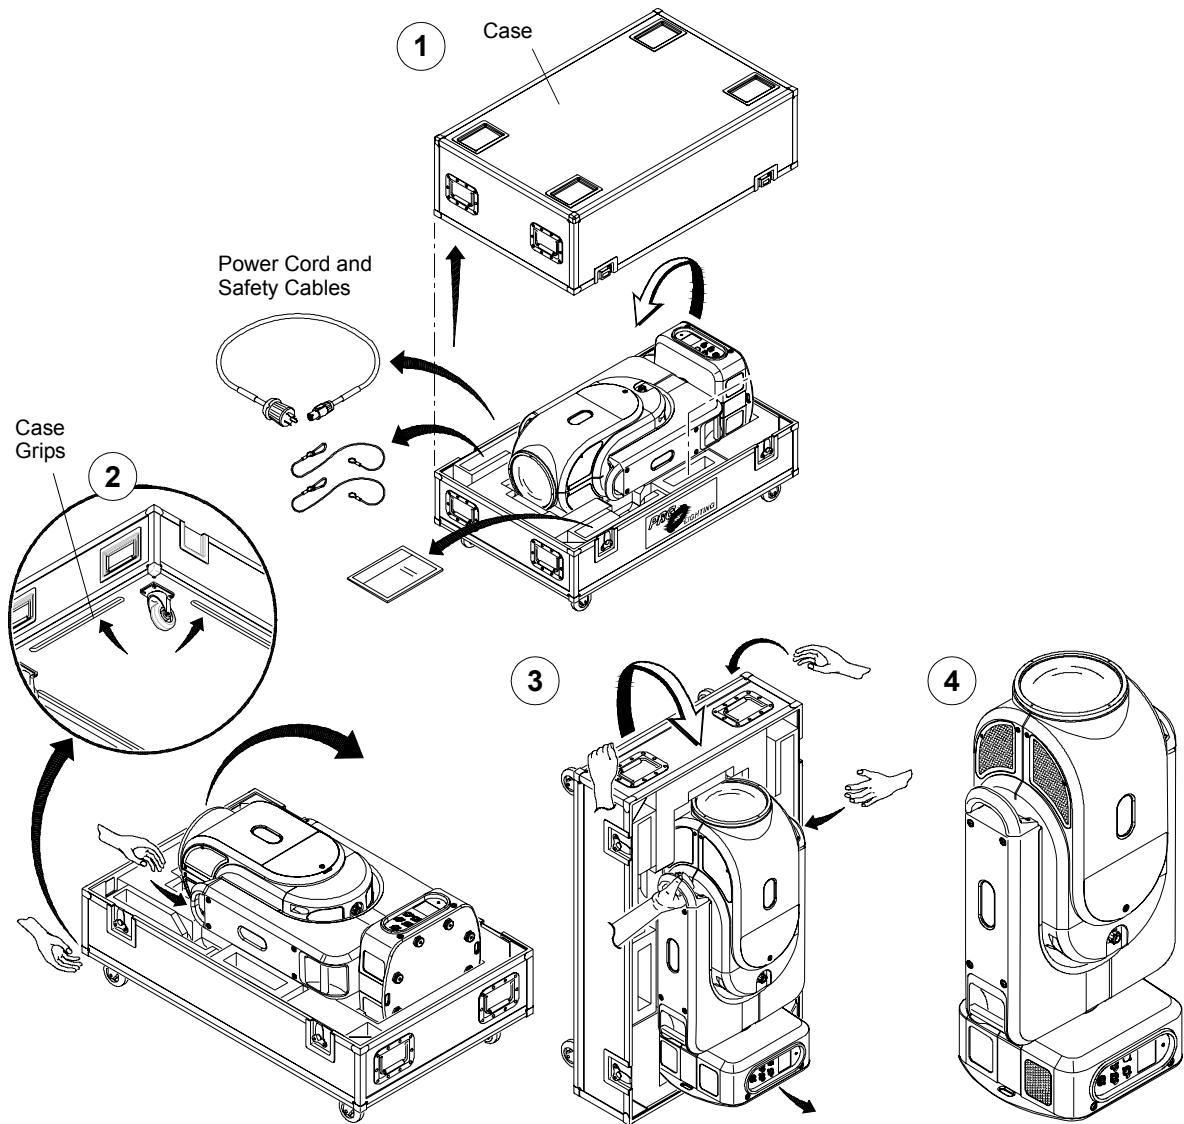

Figure 2-8: Standing Position
- Step 1. Unlatch and remove case lid (Figure 2-8).